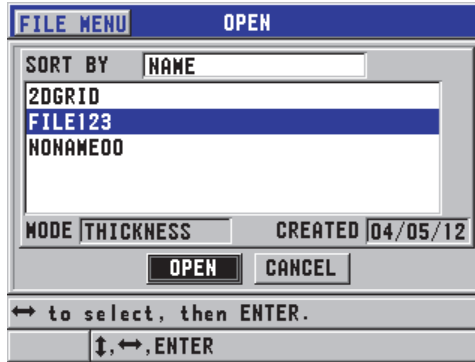

Figure 6-27 Opening a file
2. In the **OPEN** screen (see Figure 6-27 on page 109):